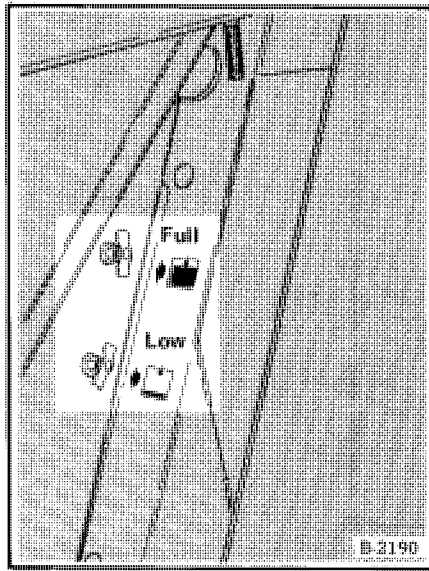
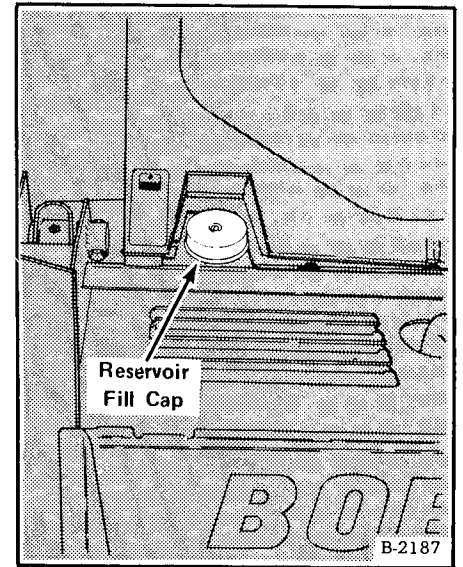

Fig. 1-28 Hydraulic Reservoir Level Check
Fig. 1-29 Hydraulic Reservoir Fill Point
(3) Open the upper valve (Fig. 1-28, Item 2). Remove the reservoir fill cap (Fig. 1-29) and add recommended fluid. When the fluid flows from the upper valve, close the valve and install the fill cap.
(4) Open the upper valve at the side of the reservoir (Fig. 1-28, Item 2). Add recommended fluid (about 4 gallons [15 Ltrs.]) to the reservoir. When fluid flows at the open valve, close the valve and install the filler cap.